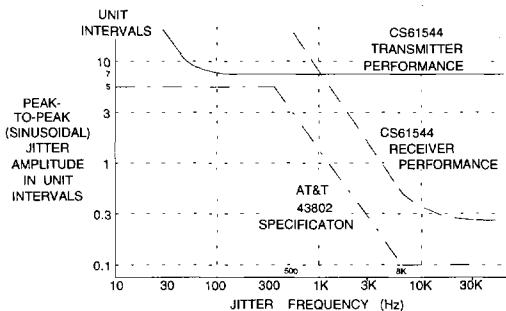

Figure 7 - Typical Input Jitter Tolerance of Transmitter and Receiver
9. For CERDIP ICs, assumes IC is operated within -70° to +70° C of reset temperature. For Plastic ICs, assumes IC is operated within -25° to +40° C of reset temperature (meets Bellcore central office specification: TR-EOP-000063 NEBS). For all packages, assumes IC is operated within 0.1 V of reset V+. Input data pattern is quasi-random: (2↑20) - 1 with 1-in-15. Between 500 Hz and 8 kHz the jitter tolerance will be better than the AT&T 43802 line shown in Figure 7.